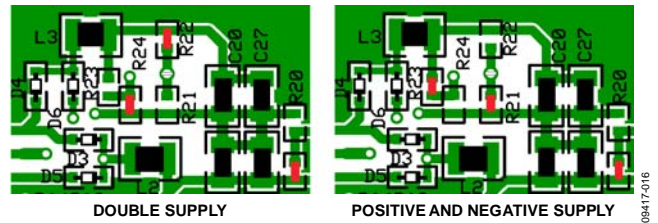

Figure 16. Double Supply Configuration with 0 Ω Resistors (Red)
–15 V supply. Short-circuiting R21 instead of R22 connects the transformer center tap to the ground plane instead of the node where L3, C20, and C27 are connected. Figure 16 shows which resistors should be short-circuited and open-circuited for the double supply or positive and negative supply configurations. Note that the negative supply is unregulated. The positive and negative supply can be set for ±12 V instead of ±15 V by short-circuiting R25.